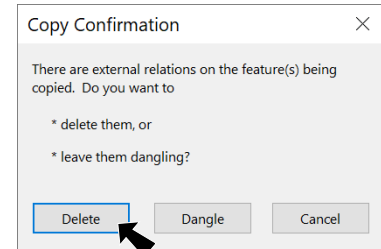

**Fig. 30**
Step 7. In Feature Manager **Ctrl drag Cut-Extrude1** to bottom face of Seat Stay tube in graphics area and release, **Fig. 30** and **Fig. 31**.